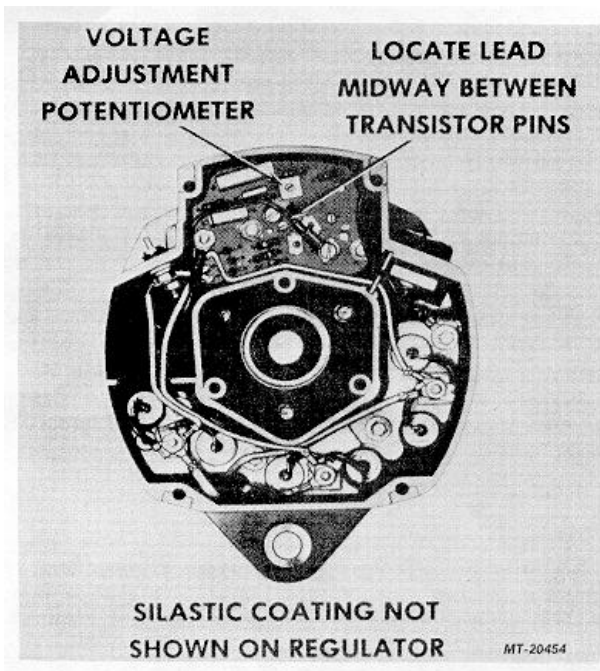

Fig. 8 Voltage Setting Adjustment (Units with Regulator Shown in Figure 16)
- b. Scrape silicone rubber coating from potentiometer to expose slotted screw (Figure 8).